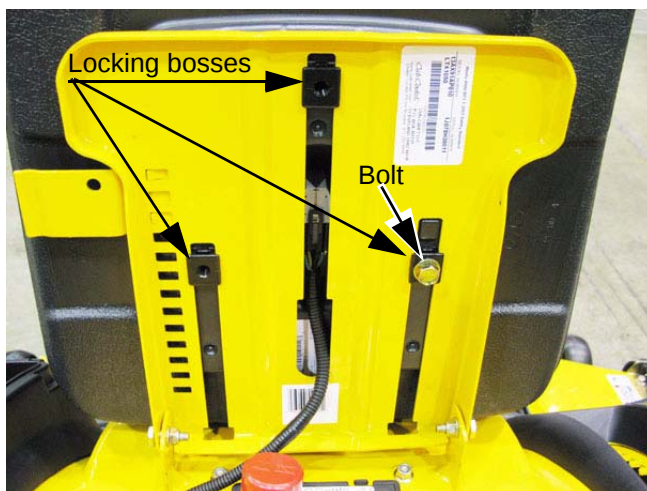

Figure 4.15
- 1b. Remove the locking bolt using a 9/16” wrench. See Figure 4.15.